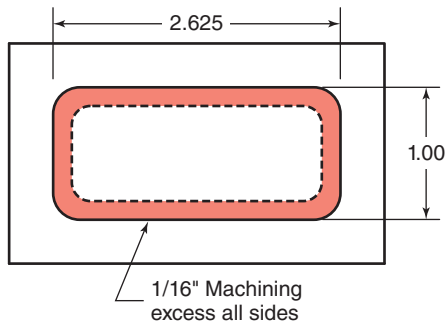

Figure 2-10 Problem 7.
- The work order instructs: "Opp 20 (operation 20)—Rough machine rectangular hole w $\frac{1}{16}$ excess." It is to be finished later. For now, you are to leave $\frac{1}{16}$ above the finished sizes, material to be finished later, on all four inner sides of the hole (see Fig. 2-10). What will be the rough, inner width and length when you are done?